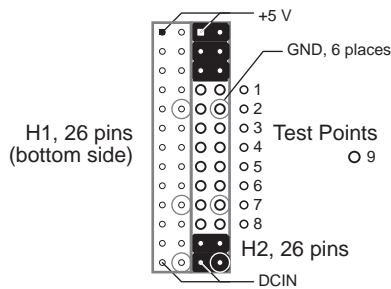

Figure D-2. Prototyping Board Signals
- A set of nine "test points" or pads (shown in Figure D-2) make signals from the demonstration circuits available.